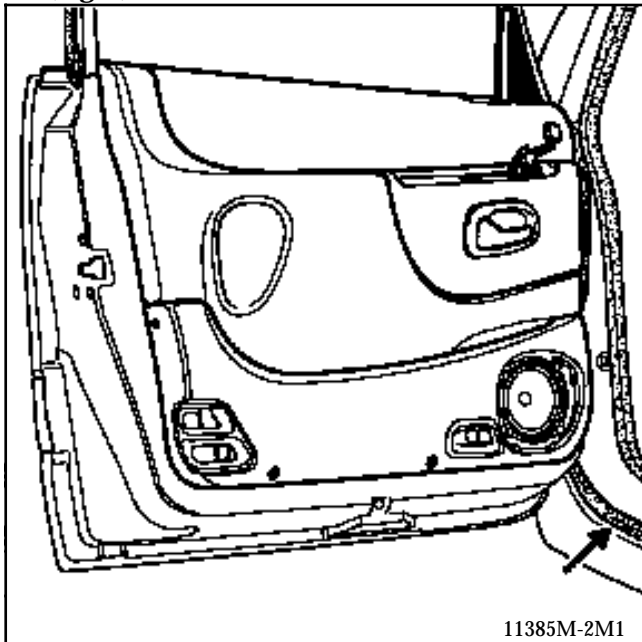

Fig. 1
- mark the area to be drilled on the moulded seal at the lower section of the sill primary seal (**Fig. 1**),